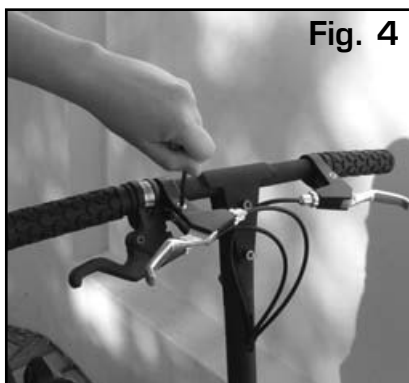

Fig. 4
5. Adjust the Gas and Brake Levers using the provided Allen Wrench, loosen the tension bolt and adjust the levers to a comfortable position (Fig4).
***BE CAREFUL NOT TO PULL ON THE CABLES AND ENSURE THEY ARE ROUTED THE SAME AS IN FIG 4!!!**